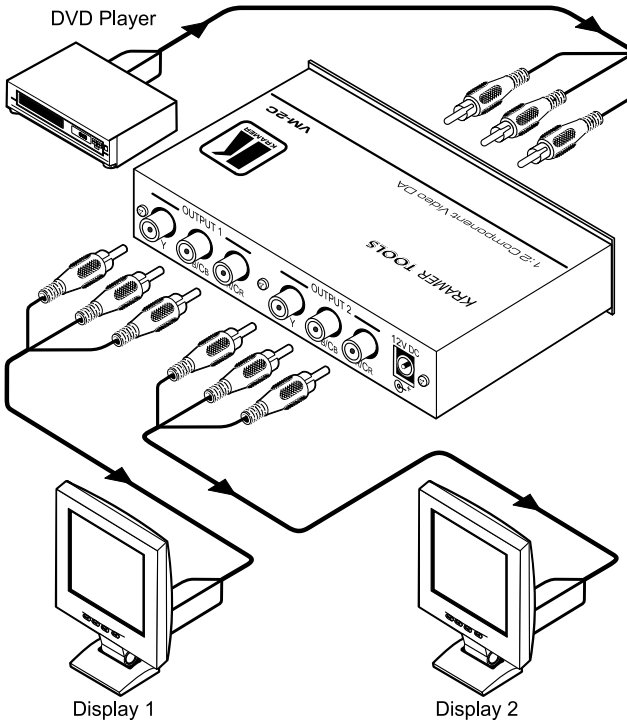

Figure 4: Connecting a VM-2C Unit
To connect a **VM-2C** unit, as the example in Figure 4 illustrates, do the following¹:
3. Connect the 12V DC power adapter (wall transformer) to the 12V DC socket and connect the transformer to the mains electricity (not illustrated in Figure 4).